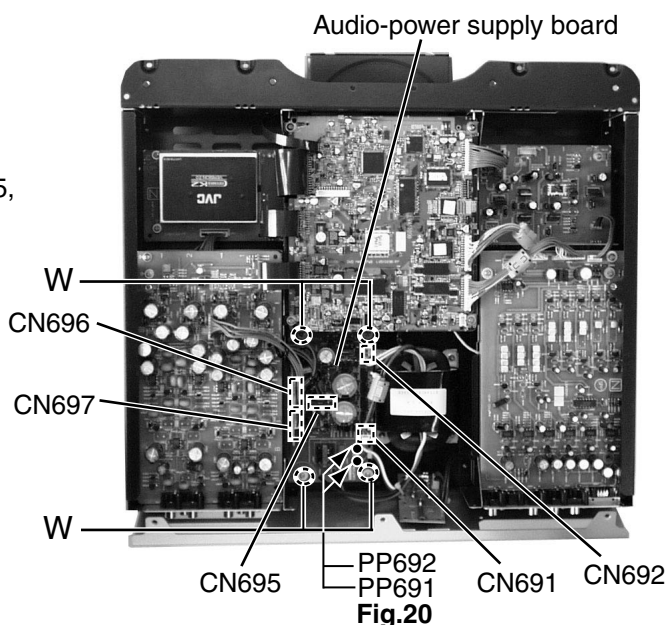

Fig.20
■ Removing the audio-power supply board (See Fig.20)